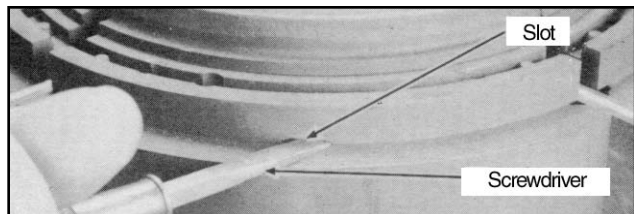

Figure 28
- To separate the cover and rotor, pry up at the openings provided, Figure 28. This will prevent damaging the edge of the rotor. There are three tapped holes in the JB10 that can be used for jack screws.